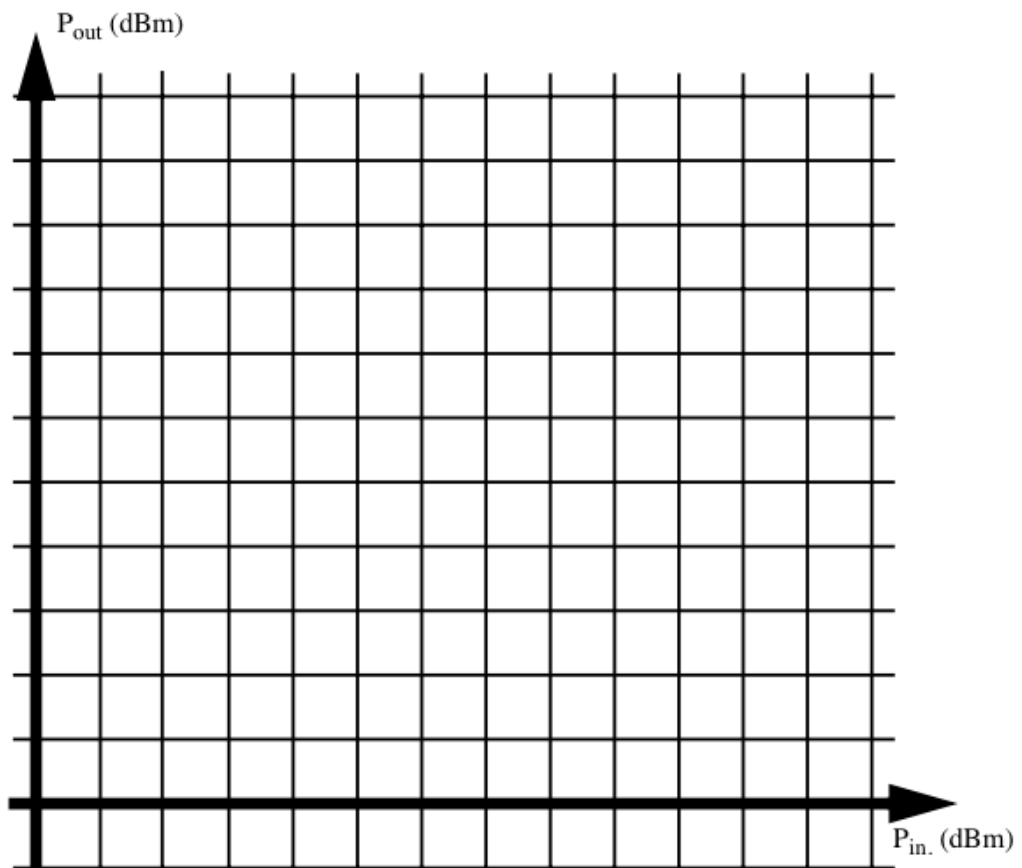

Fig. 5
c) Measure the output power level of the amplifier at different input power levels. Complete Table 1 below with variable attenuation (D), input power (P_{in}), output power (P_{out}), and amplifier gain (G). Plot P_{out} as a function of P_{in} in Fig. 5, next page.